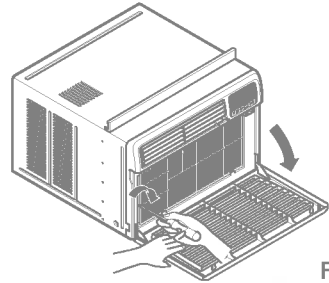

Fig. 21
- Attach the front grille to the cabinet by inserting the tabs on the grille into the tabs on the front of the cabinet. Push the grille in until it snaps into place. (See Fig. 21)
- Lift the inlet grille and secure it with a screw (Type A) through the front grille. (See Fig. 21)